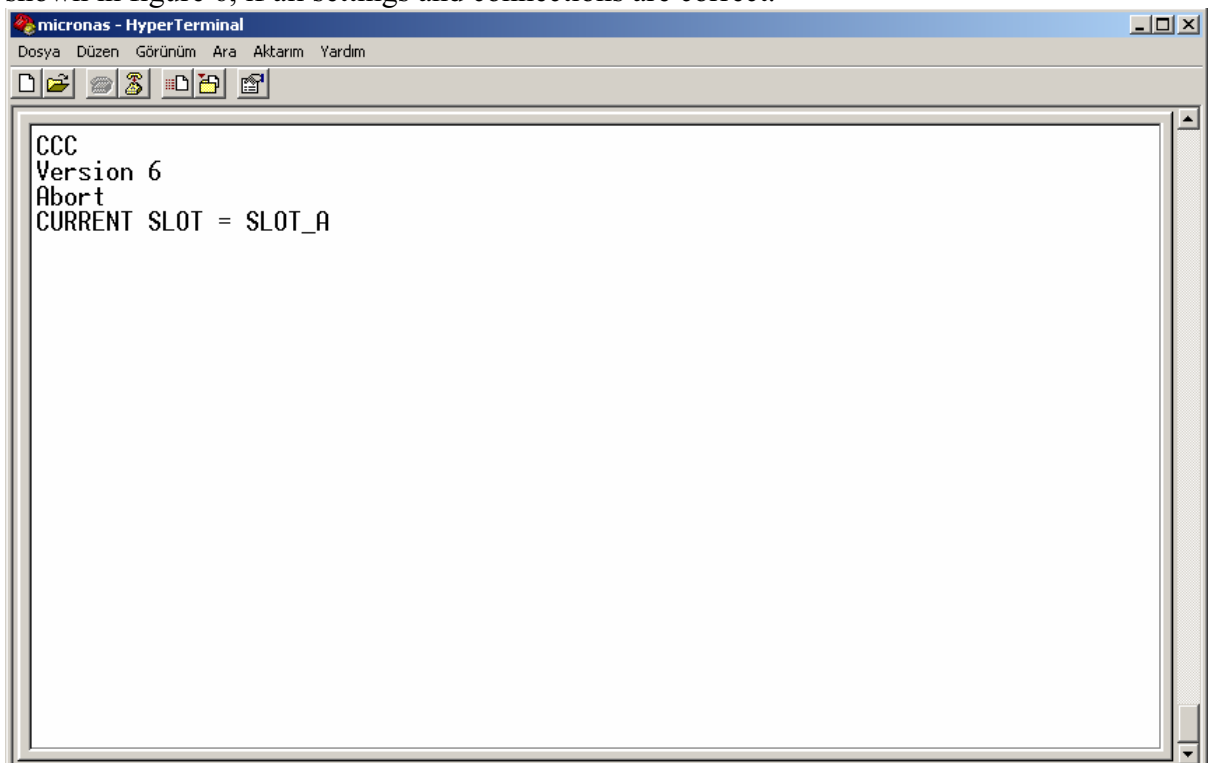

Fig6: Checking the connection
- Check the settings given above and correct if necessary. Select the TV software from the “Send” button  browsing PC (e.g. newrelease.img). Select the 1K Xmodem protocol. Before flashing the DTV, switch on TV and exit from stand by mode in order to check whether there is any connection or setting problem. Terminal window displays the message shown in figure 6, if all settings and connections are correct.